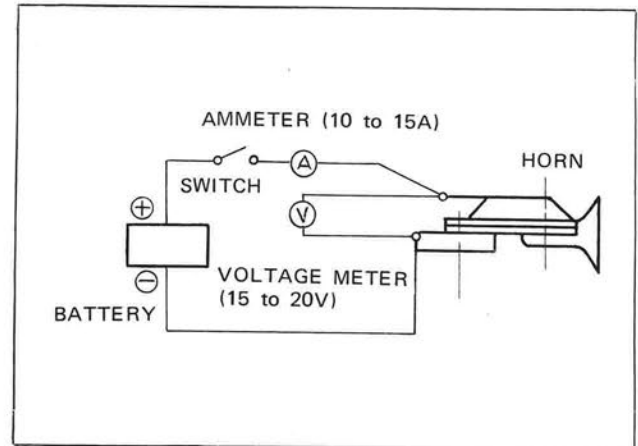

Fig. BE-39 Circuit diagram of horn
1. Apply voltage meter and connect cables as shown in Figure BE-39.